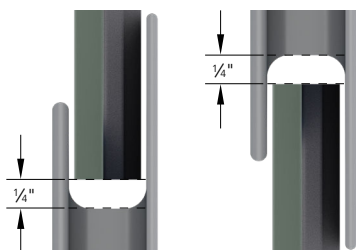

Figure 9
- When measuring Board & Batten panels to be cut and installed around windows, doors, and other cutouts, it is important to leave  $\frac{1}{4}$ " gap on the top, bottom, and sides. This will maintain enough room for vertical expansion and contraction and ease of installation (Figure 9).